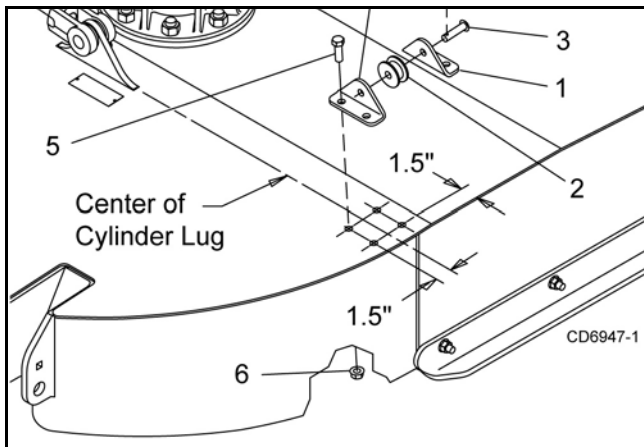

Figure 38. Roller Assembly Installation
1. Locate and drill one 9/16" hole in each wing using dimensions shown in Figure 38. Assemble items 1, 2, 3 and 4. Use assembly to locate and drill remaining holes.
2. Secure idler brackets (1) and rollers (2) to deck with bolts (5) and nuts (6).
3. Remove cylinder pin: Place channel (10) over cylinder and cylinder lug. Place wing lock-up bracket over channel and insert pin (8), washers (7), and cotter pins (9). NOTE: Washers (7) are used as spacers and are placed between lock-up bracket and channel (10) as needed.
4. Repeat step to install second channel (10) on opposite wing.
5. Attach winch assembly to channels (10) using bolts (5) and lock nuts (6).